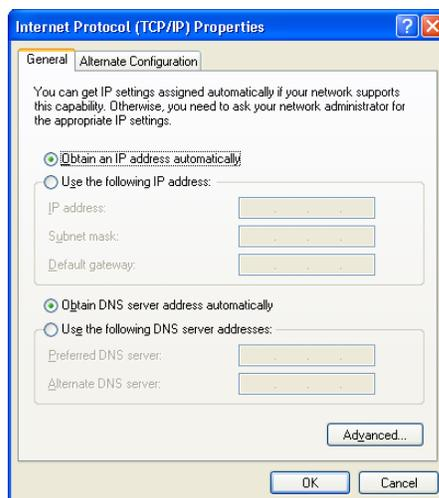

Figure 3. Set PC network properties to automatic for the Wi-Fi Internet Adapter.
3. Open the Internet Protocol (TCP/IP) Properties of the PC network port. Set “Obtain an IP address automatically” as in Figure 3 for the Wi-Fi Internet Adapter setup. Also make sure the “Obtain DNS server address automatically” button is selected.
- b. **Automatically (DHCP enabled).** At the AR2 site, enter the AutoRAE 2 network setting menu. (See Figure 3.) Enable the DHCP function of the AutoRAE 2 Controller Ethernet port then exit to AR2 normal mode. Keep the PC wireless port setting as shown in Figure 3 (that is, set it to get the IP address automatically).